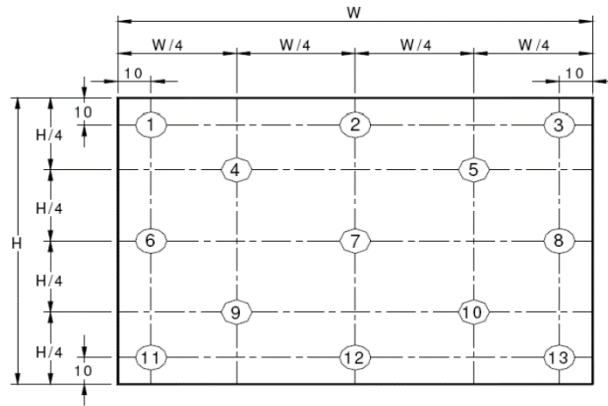

Fig.9-5
Note (7) The Luminance of White is the average of 5 points measurements (4,5,7,9,10) showing in the Fig.9-5.